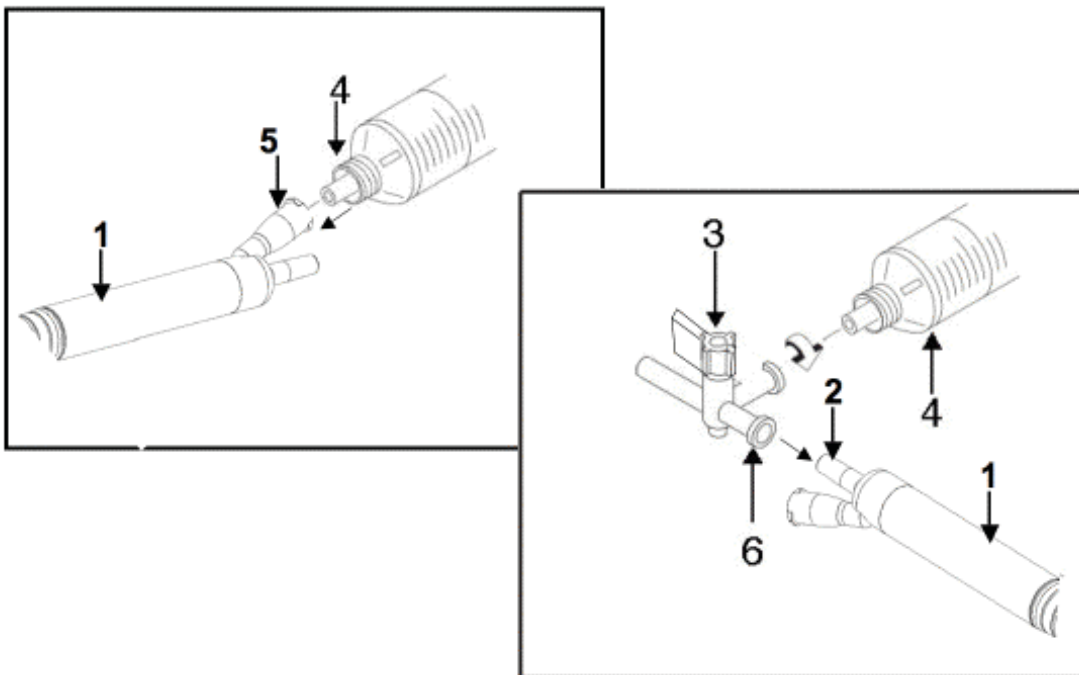

Figure 5.2. Irrigation and Aspiration Handpiece Flushing Setups.
- C. Connect the end of the syringe to the irrigation fitting of the handpiece (see Figure 5.2).